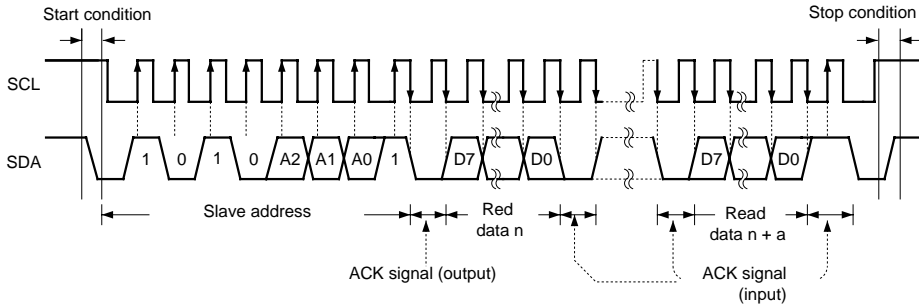

Fig.16 Sequential read cycle (BR24C01A / AF)
(See Figures 16 to 18 for the sequential read cycles.)
- When an ACK signal LOW is detected after D0 and a stop condition is not sent from the master ( $\mu$ -COM), the next word address data can be read. [All words all read enabled] (See Figures 16 to 18 for the sequential read cycles.)
(10) Sequential read